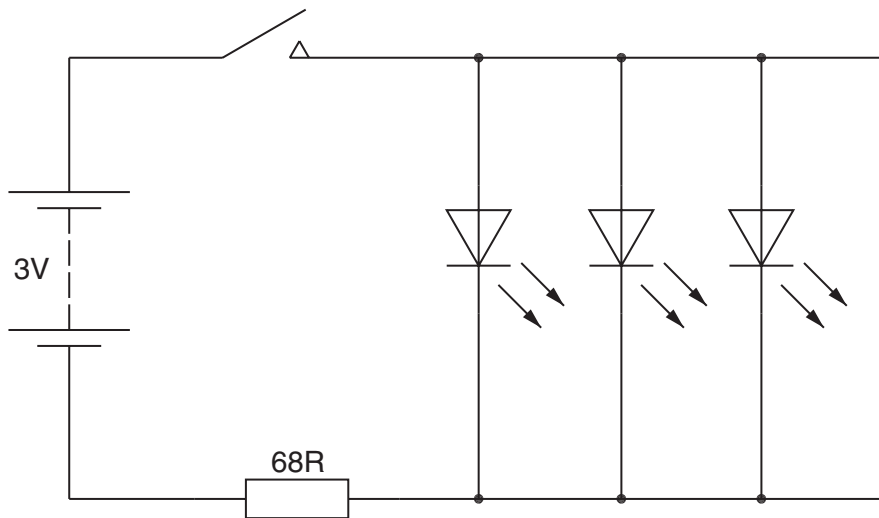

Fig. 9
(e) The novelty siren is powered by 2 × 1.5V (AA) batteries. The circuit for the three LEDs is shown in Fig. 9.